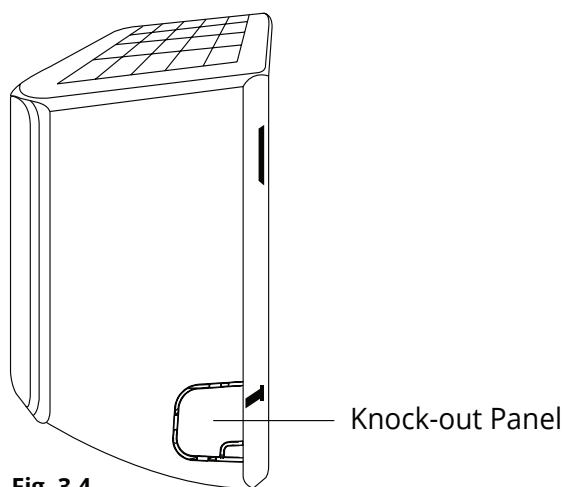

Fig. 3.4
2. If the wall hole is behind the unit, keep the knock-out panel in place. If the wall hole is to the side of the indoor unit, remove the plastic knock-out panel from that side of the unit. (See **Fig. 3.4**). This will create a slot through which your piping can exit the unit. Use needle nose pliers if the plastic panel is too difficult to remove by hand.